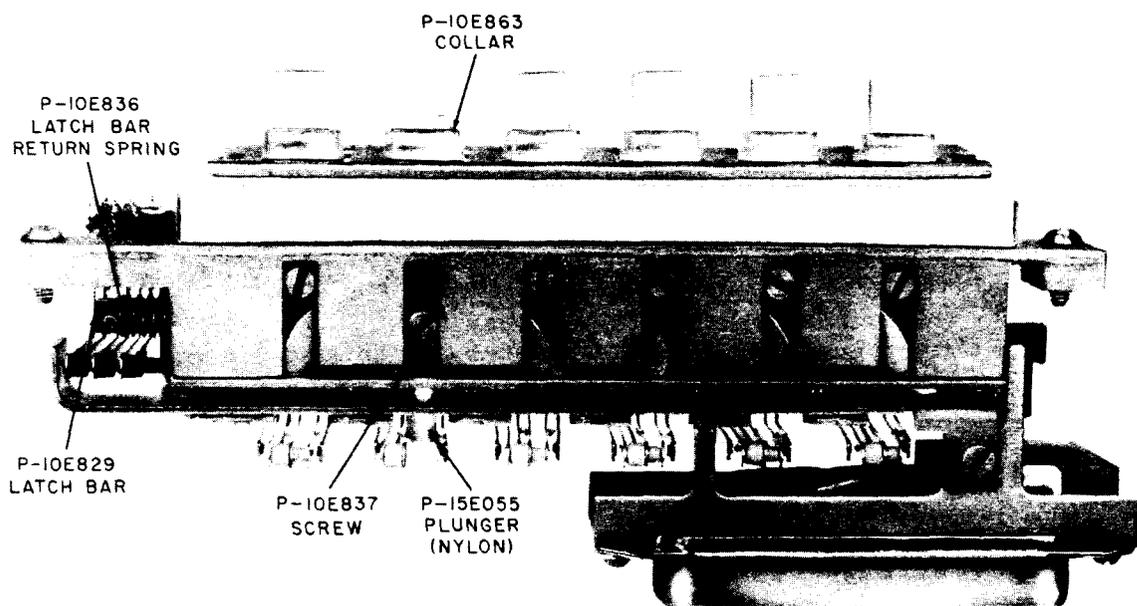
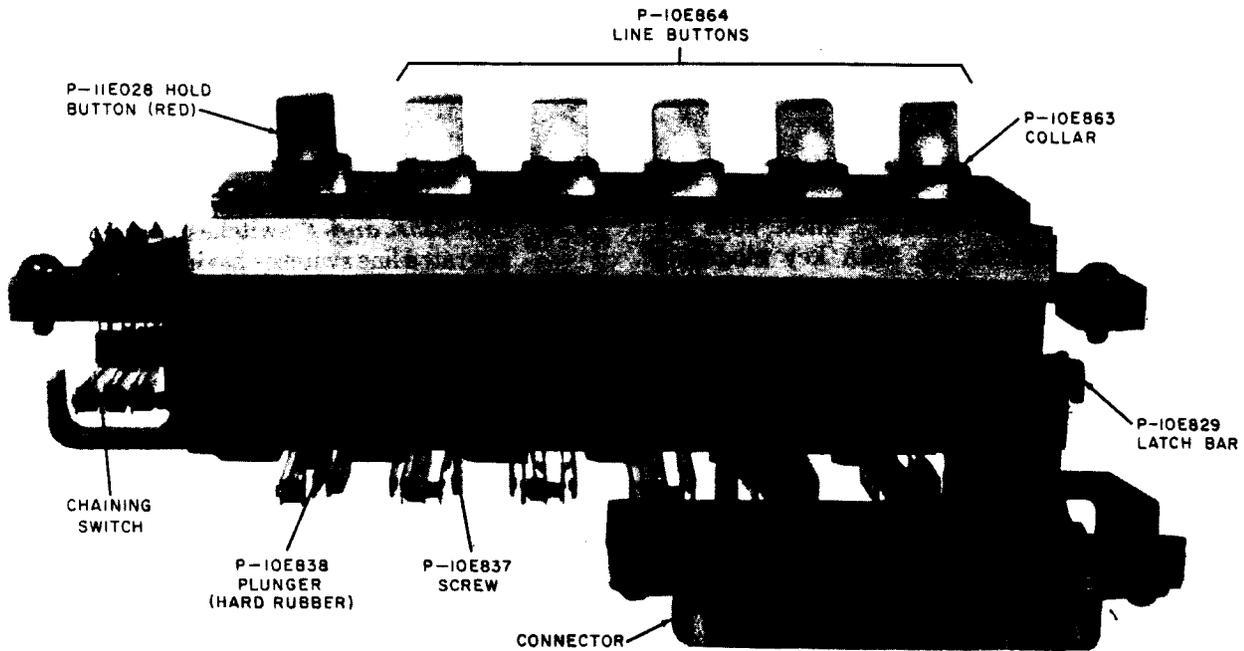

Fig. 10—598-Type Key
Fig. 11—599-Type Key
2.32 The *598-type* (Fig. 10) and *599-type* (Fig. 11) keys are modular key units having various mechanical and electrical features. These keys are designed for mounting in the 396A key mounting and are used with mounting cords equipped with 50-pins KS-type connectors. Refer to Section 512-230-100 covering modular keys for further information on 598- and 599-type keys. Section 512-210-401 shows schematics for these keys.